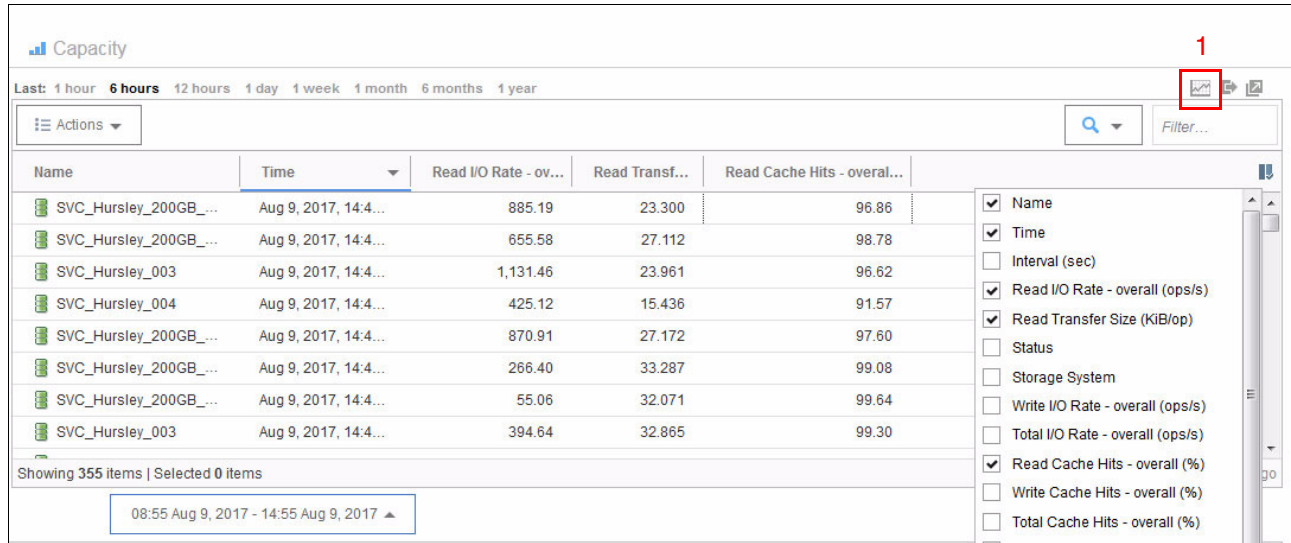

Figure 2-65 Spectrum Control table view of performance diagram
Because a third y-axis cannot be displayed, all three metrics (I/O Rate, Cache Hit Percentage, Transfer Size) cannot be shown in the same chart (see also Chapter 2.1.2, “Considerations for Performance Monitoring with IBM Spectrum Control” on page 10). However, it is possible to show all three metrics at the same time in the table view of the graph by using the table/chart toggle (1), as shown in Figure 2-65.